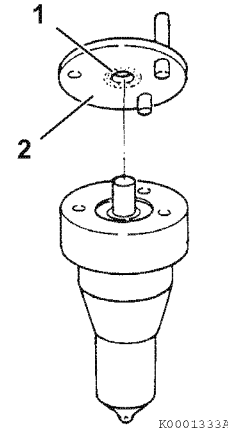

Figure 7-48
6. Inspect the sealing surfaces (2, **Figure 7-48**) between the valve stop spacer and nozzle body for nicks or scratches. Check the contact area between the valve stop spacer and the nozzle valve (1, **Figure 7-48**) for scoring, or pitting. Use a magnifier glass to inspect the area.